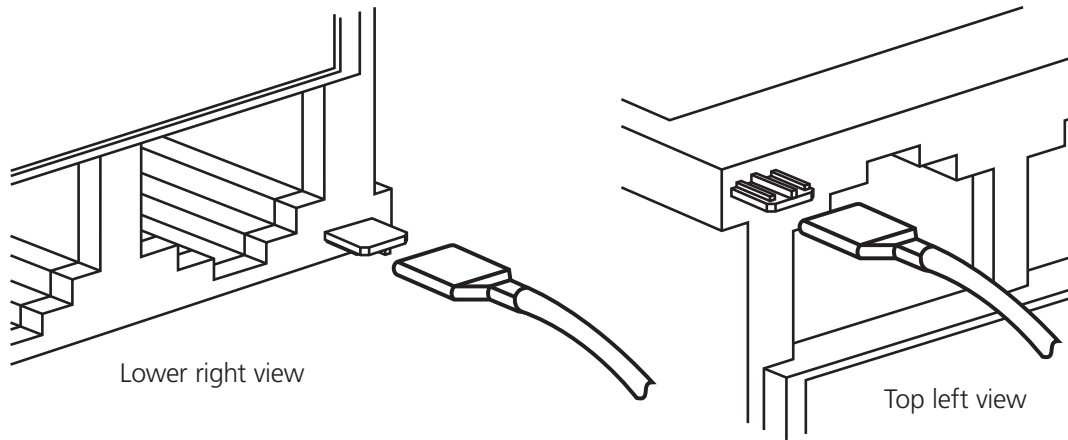

Figure 3-1. Drain wire installation options for shielded models.
- When using the shielded High-Density Feed-Through Patch Panels, make sure to attach the necessary drain wires. Use one drain wire for each shielded module on the patch panel. Attach the drain wire in either of the two places as shown in Figure 3-1. Connect the other end of the drain wire to proper ground.